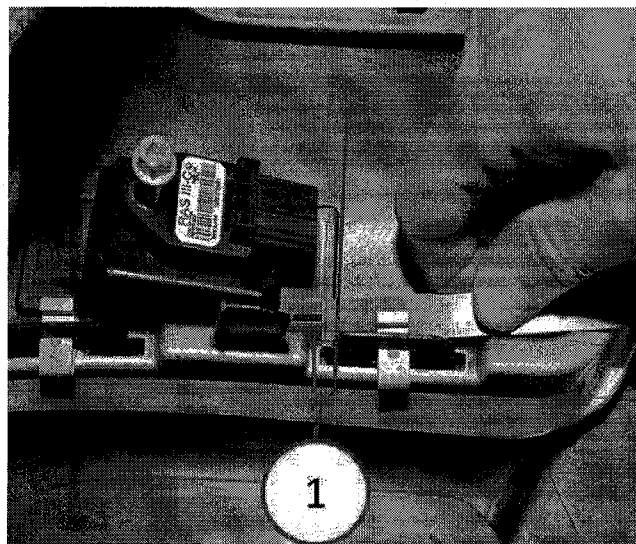

Fig. 6 Safety Sensor Bracket
10. Mark right and left sensor bracket locations 5 mm below reference location on fascia(Fig. 6).